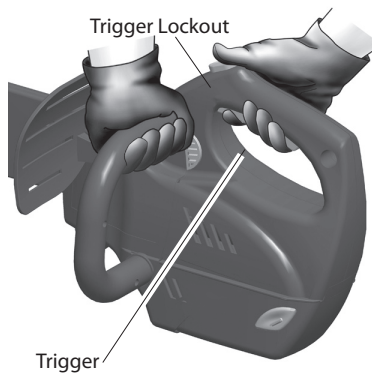

Figure 13 - Trigger Lockout and Trigger Location
- Use both hands to grip saw. Always use left hand to grip front handle and right hand to grip rear handle. Use firm grip. Thumbs and fingers must wrap around saw handles (see Figure 13).
- When ready to make a cut, press in trigger lockout with right thumb and squeeze trigger (see Figure 13). This will turn saw on. Releasing trigger will turn saw off. Always turn saw on before contacting saw chain with wood.